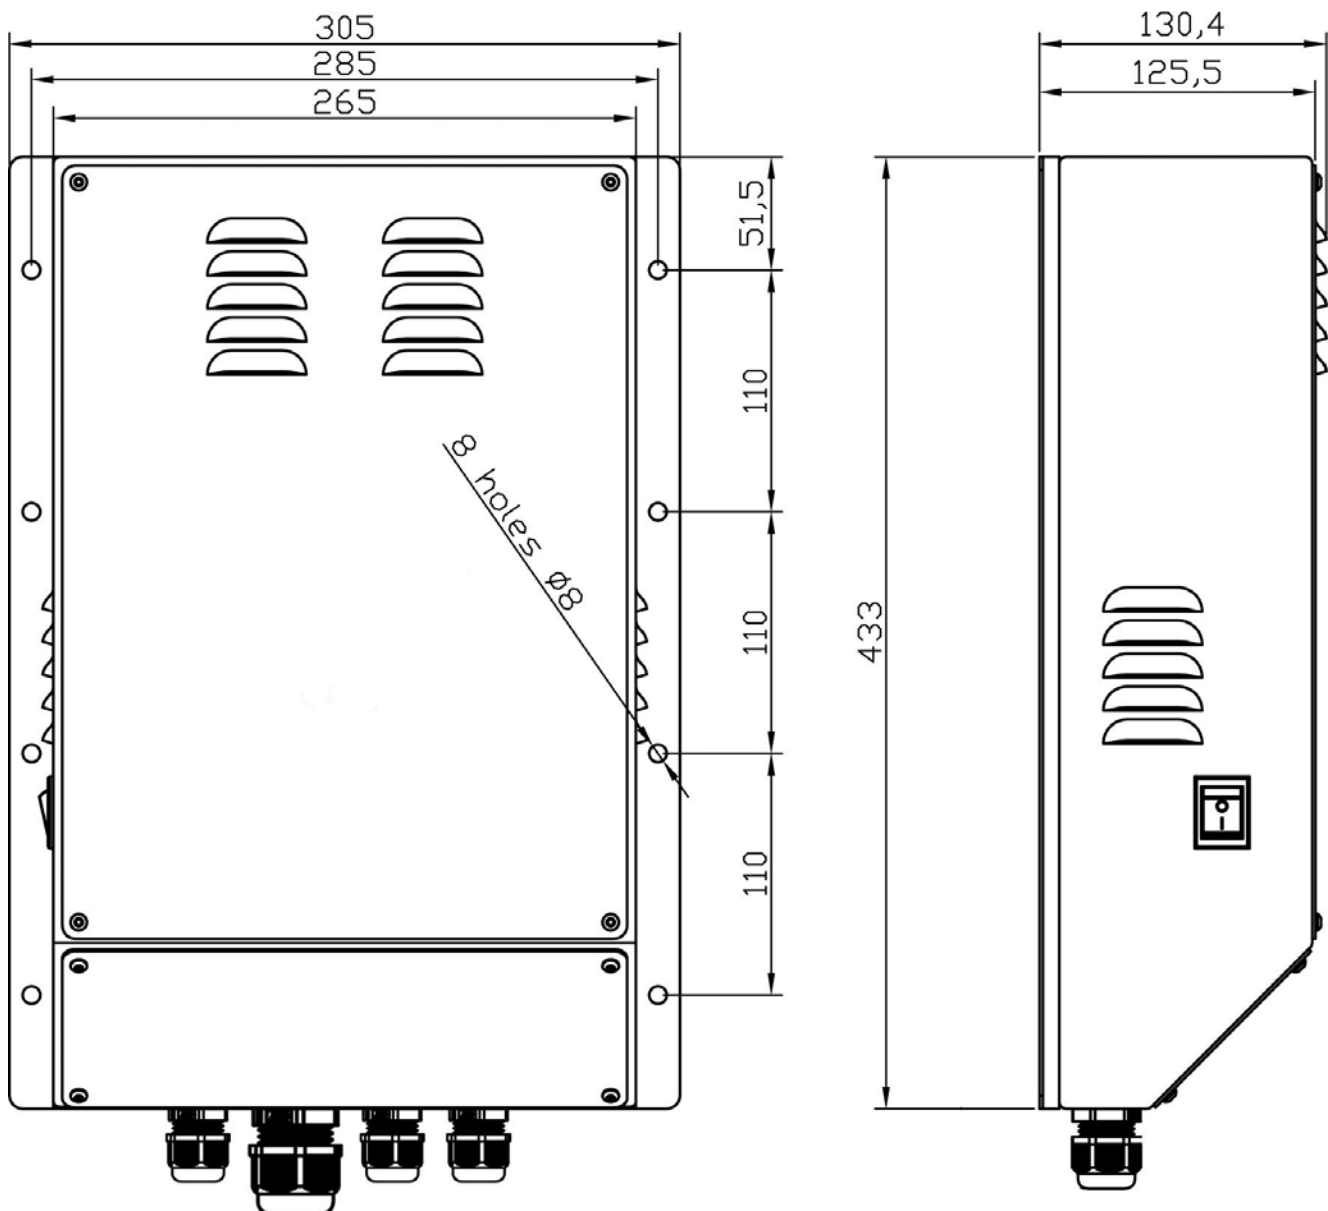

Figure 1. The PSU dimension-and-installation drawing
- 1) Install the PSU on a vertical bulkhead or on a mounting panel as shown in the dimension-and-installation drawing (Fig. 1). There are special holes in the PSU body to attach the PSU. The fasteners (such as screws and bolts) are fitted inside the body.